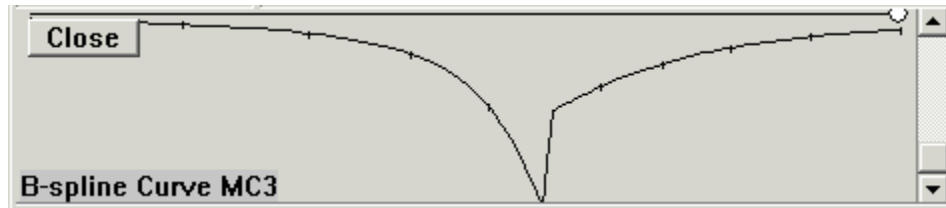

Fig. 41
- 5 View its Curvature Profile (Fig. 41).